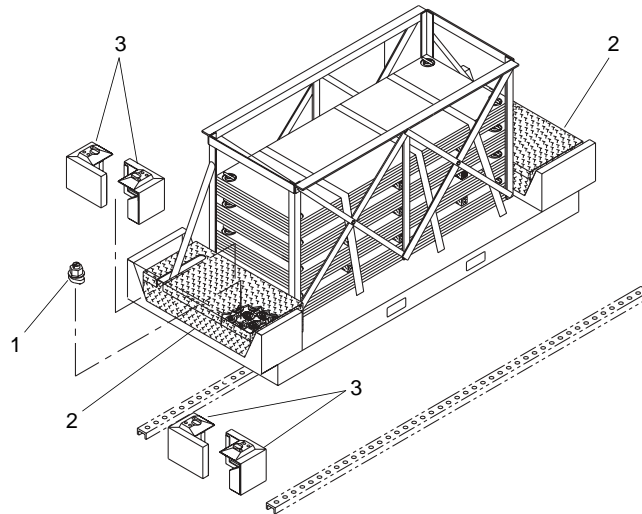

Figure 34. Corner Fender and Mounting Assembly Stowage
17. Stow corner fender mounting assemblies (figure 34, item 1) in each pallet toolbox (figure 34, item 2).
18. Using assistant, place the corner fenders (figure 34, item 3) in the deck mat container (figure 34, item 2).